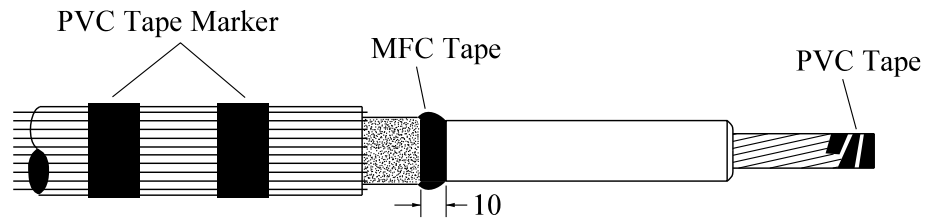

Fig 2
21. Apply field control mastic strip, type MFC, slightly stretch one end applying with a 5mm overlap onto both semi-conducting screen and core insulation, push the mastic in place while stretching it progressively until both ends overlap and tear-off excess mastic — Fig 2	--